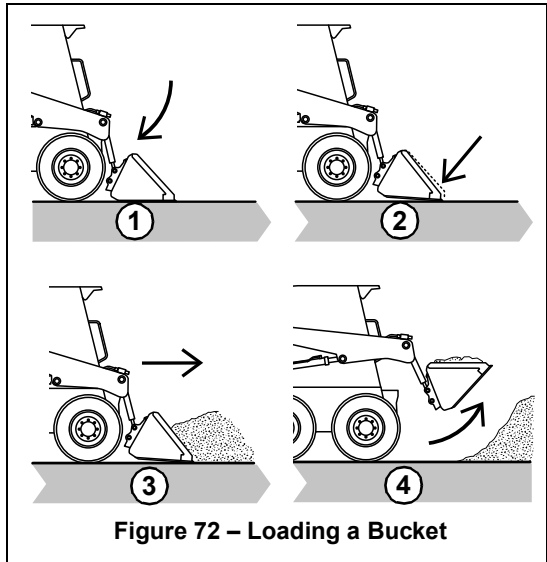

Figure 72 – Loading a Bucket
1. (Figure 72) Lower the bucket to the ground.